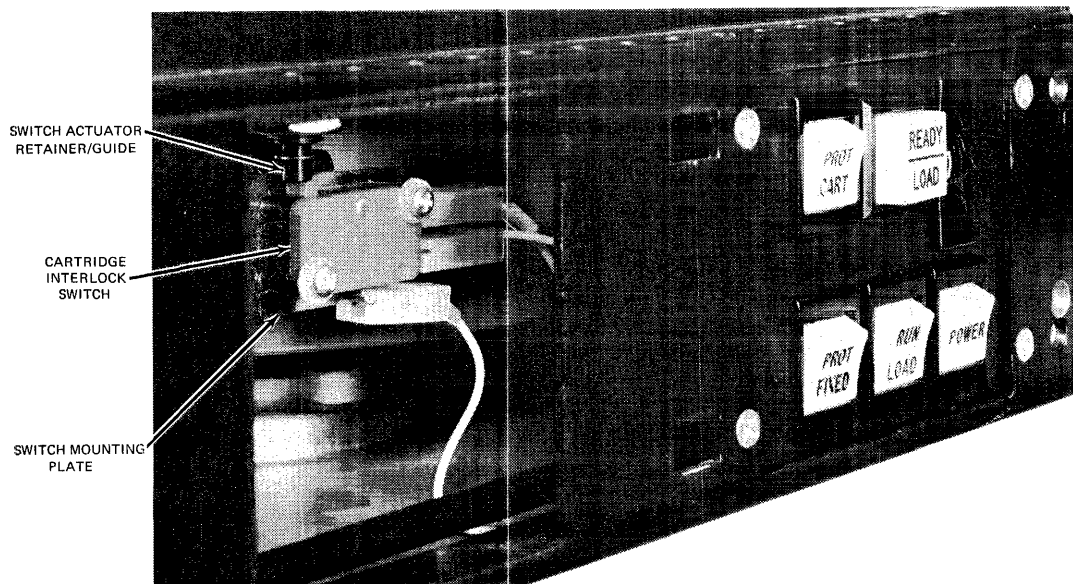

Figure 5-21. Cartridge Interlock Switch Assembly
5.4.3.10 Cartridge Interlock Switch. This mechanism consists of a microswitch and a plunger-type actuator on its upper end. When the disc cartridge housing is seated in the Disc Drive, the actuator is engaged. The switch is located at the left-hand side of the control/indicator mounting plate and is accessible when the trim panel at the front of the unit is removed. A photo of the cartridge interlock switch is included in Figure 5-21.